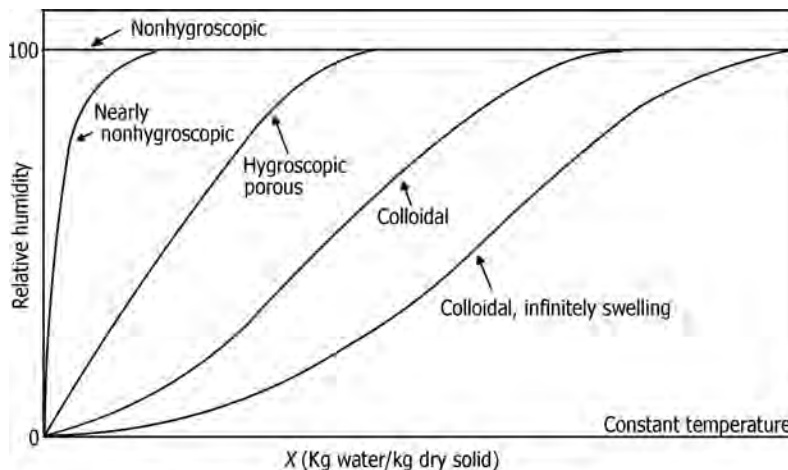

FIGURE 18.22 Equilibrium moisture content curves for different types of solids.
- Figure 18.22 illustrates equilibrium moisture content for different types of solids.